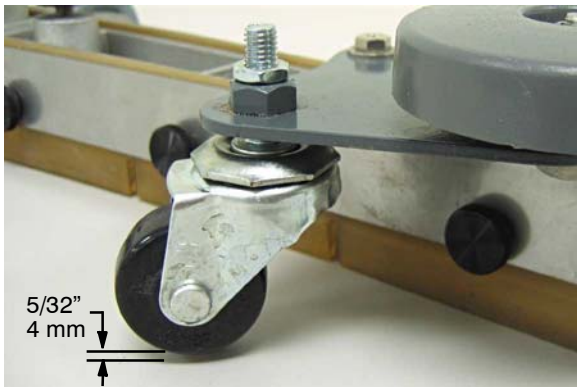

FIG. 6
6. To adjust the blade deflection, place the squeegee assembly on a level surface and adjust the casters as shown (Figure 6).